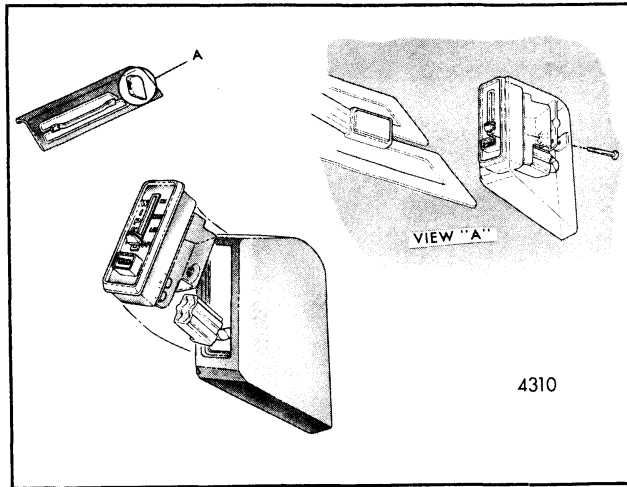

Fig. 5-14-Windshield Wiper Control Switch Removal and Installation
8. On Cadillac styles, remove windshield wiper control switch to "pod" attaching screw (Fig. 5-14) and disconnect wire harness at switch assembly.